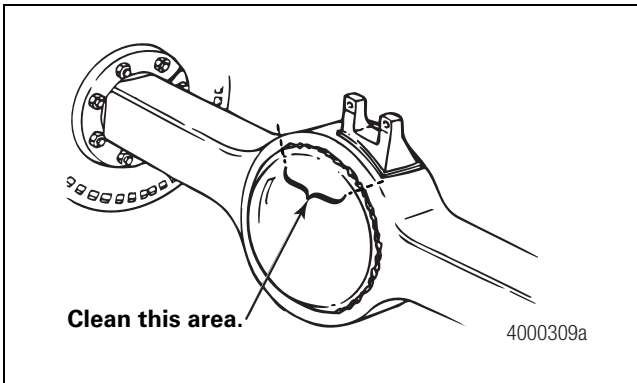

Figure 4.11
4. For housing-to-cover welds, clean the outside housing-to-cover weld area two-three-inches (50.8-76.2 mm) past each end or side of the crack. Clean the inside area where the cover mates with the housing. Clean the area completely around the cover. Use a wire brush and a cleaning solvent that will remove dirt and grease from these areas. Figure 4.11.